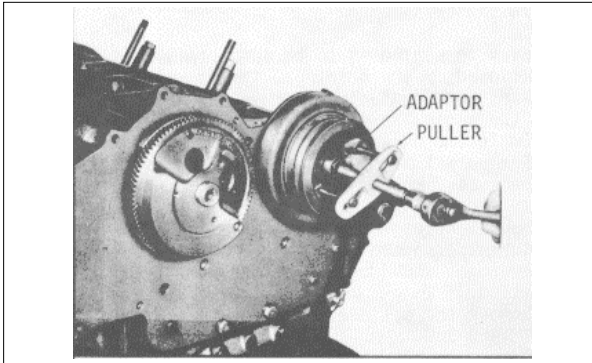
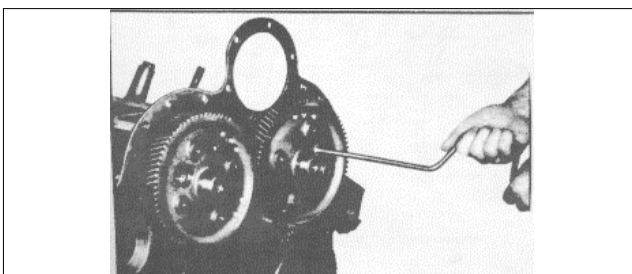

Fig 3. Removing Camshaft Pulley
Fig. 4 Removing or Installing Camshaft End Bearing Retaining Bolts
- (11) Attach puller J 24420 to the camshaft pulley. Use adaptor J 7932 between the end of the camshaft and the pulley screw to protect the end of the camshaft (Fig. 3).
- (12) Remove the water pump drive gear from the front end of the right bank camshaft, using puller J 24420 and adapter J 7932.
- (13) Remove the Woodruff key and the spacer from the front end of each camshaft.
- (14) Remove all of the camshaft intermediate bearing lock screws from the top of the cylinder block.
- (15) Rotate the camshaft gears as required to reveal the camshaft end bearing retaining bolts. Then remove the bolts as shown in Fig. 4.
- (1) Drain the engine cooling system and remove the radiator or heat exchanger and all attaching parts.
- (2) Remove the parts, accessories and assemblies that are necessary to facilitate the removal of the flywheel housing hole cover over the camshaft and the front balance weight cover.
- (3) Remove the cylinder head (SM1-63-5.0).
- (4) Remove the front balance weight cover.
- (5) Remove the camshaft gear nut retaining plate.
- (6) Block the crankshaft, between the crankshaft throw and the cylinder block, and remove the gear retaining nut or lock bolt and washer from both ends of the camshaft.
- (7) If a left bank camshaft is to be removed, attach puller J 24420 to the camshaft pulley. Use adapter J 7932 between the end of the camshaft and the pulley screw to protect the end of the camshaft (see Fig. 3).